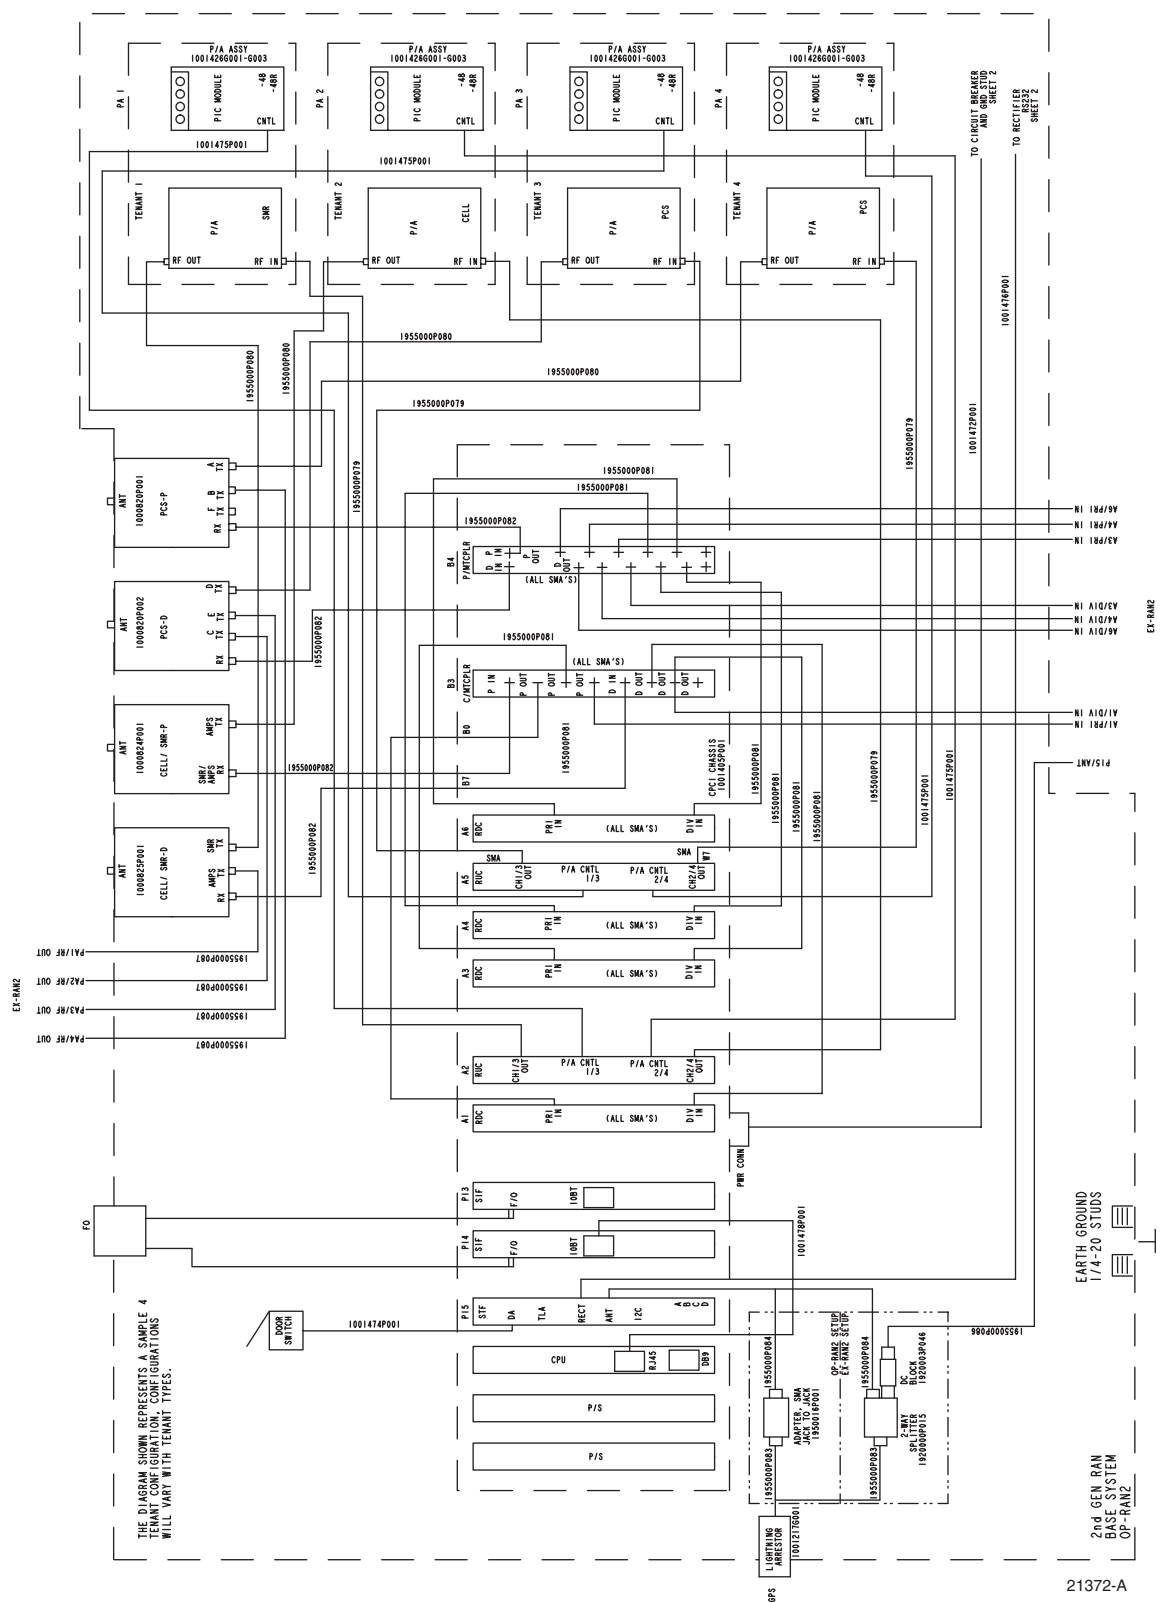
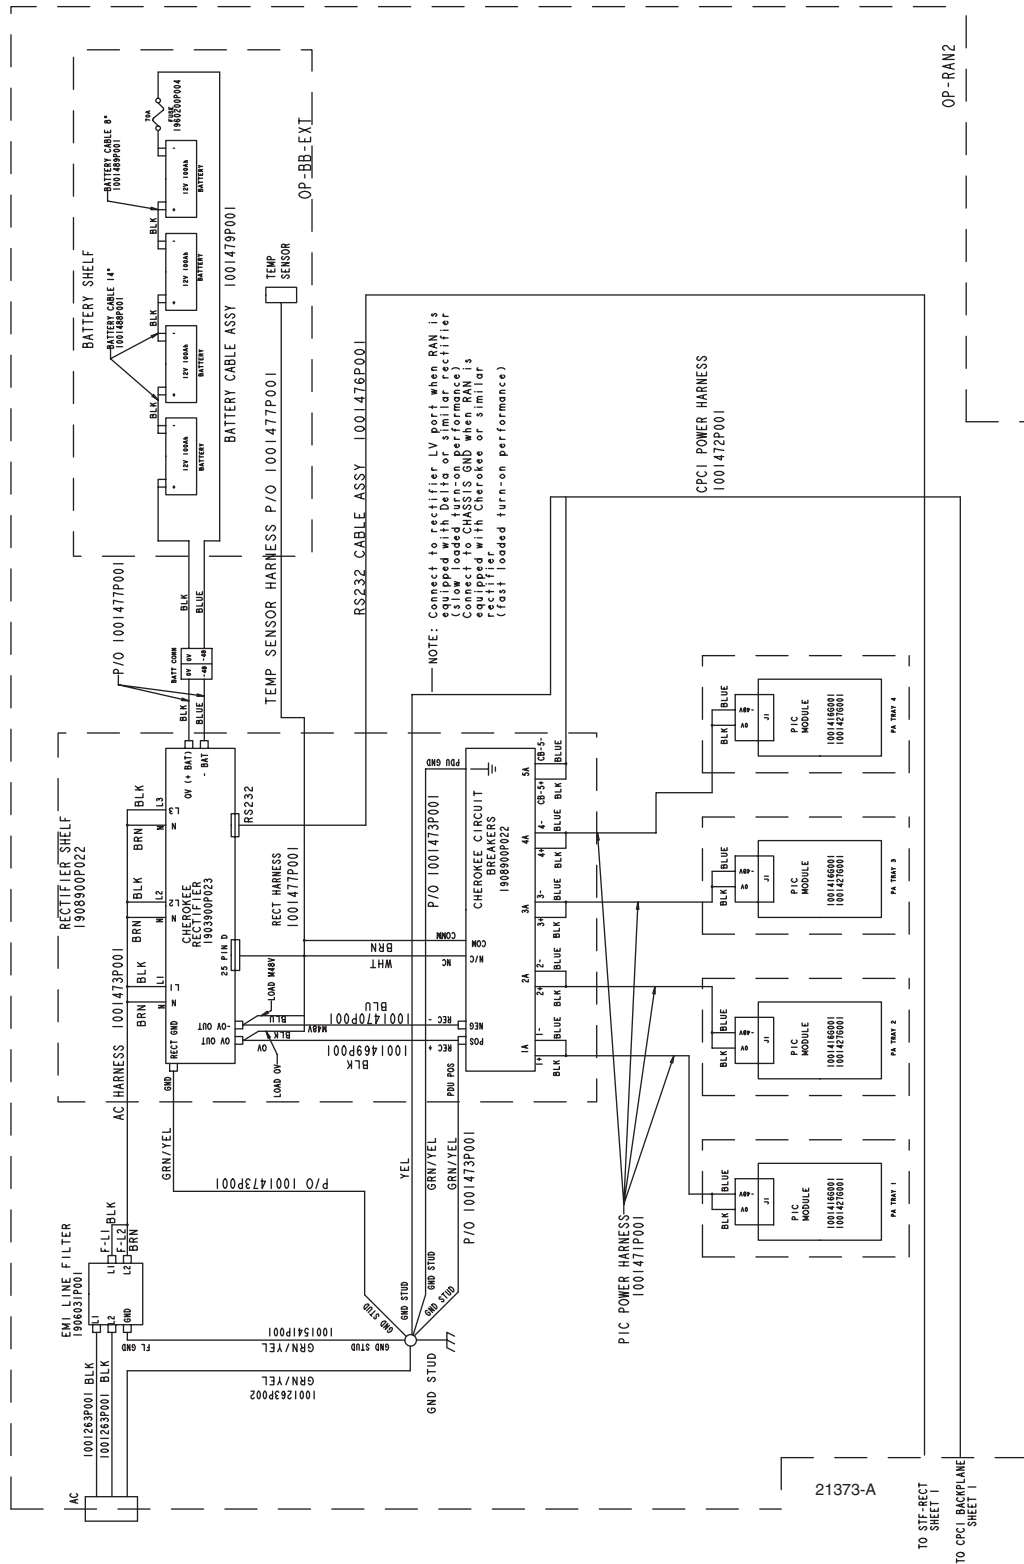

Figure 40. RAN Interconnection Diagram Part 1
Figure 41. RAN Interconnection Diagram Part 2
The interconnection diagram shown in Figure 40 and Figure 41 on the next two pages summarizes the interconnections between the RAN chassis electronic modules and other electronic components of the RAN such as rectifiers and PAAs.
- **Note:** For a description of the CPU module including function, controls, and indicators, refer to Section 1.7.2 on Page 13. For a RAN chassis interconnection diagram, refer to Figure 40 on Page 58.
► **Note:** For a description of the STF2 module including function, controls, and indicators, refer to Section 1.7.3 on Page 14. For a RAN chassis interconnection diagram, refer to Figure 40 on Page 58.
► **Note:** For a description of the SIF module, including function, controls, and indicators, refer to Section 1.7.4 on Page 15. For a RAN chassis interconnection diagram, refer to Figure 40 on Page 58.
- **Note:** For a description of the module including function, controls, and indicators, refer to Section 1.7.6 on Page 17. For a RAN chassis interconnection diagram, refer to Figure 40 on Page 58.
- **Note:** For a description of the module including function, controls, and indicators, refer to Section 1.7.7 on Page 19. For a RAN chassis interconnection diagram, refer to Figure 40 on Page 58.